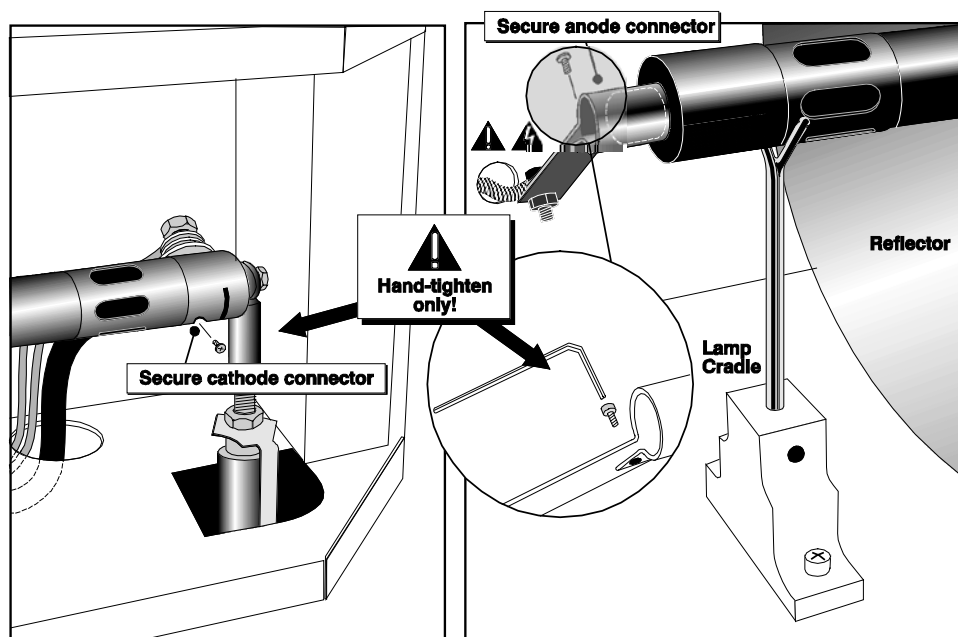

Figure 6.2. Secure bulb at cathode (–) and anode (+) connectors
- 6.1. Loosen set screws from negative/cathode (rear, 7/64”) and positive/anode (front, 3/16”) lamp connectors. These screws are shown in Figure 6.2. Make sure to apply minimal torque and DO NOT STRESS the quartz tube.
8.3. Tighten set screws in both negative and positive lamp connectors (Figure 6.2).